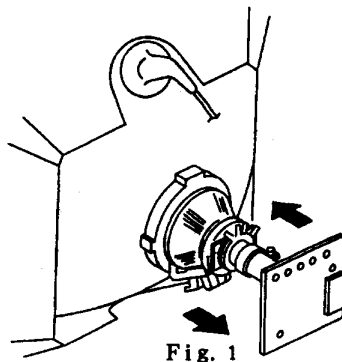

Fig. 1
5. Move the deflection yoke forward and adjust so that the entire screen becomes green. (Fig.1)